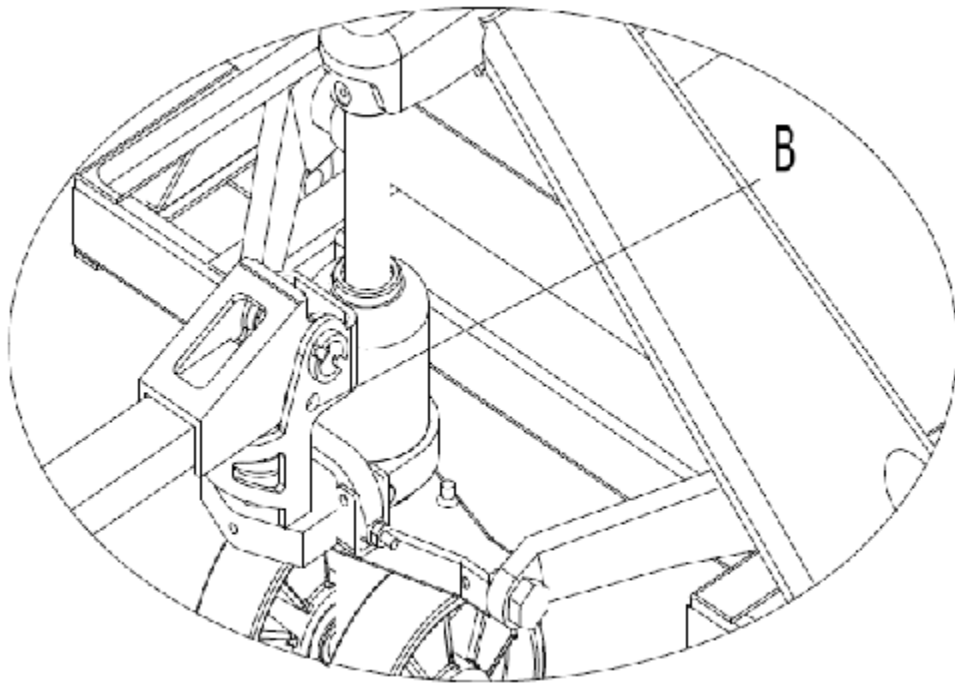

Figure 3
6. Pull the handle(8) and pull out the pin(B). *See figure 3*